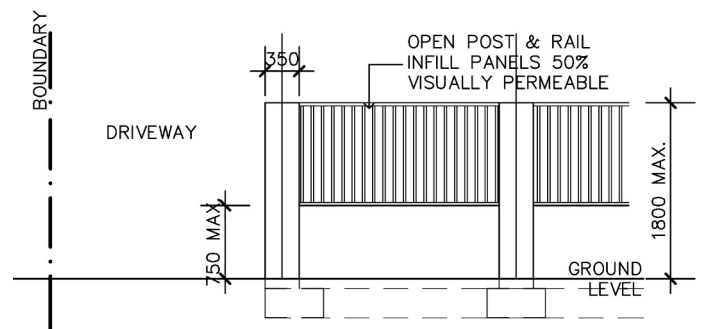

Figure 2: Typical front fence within truncation to provide vehicle sightlines
- Fence and walls within 1.5m of where the driveway meets the street boundary has a solid portion which is no higher than 750mm from natural ground level, excluding a pillar which can be a maximum height of 1.8 metres and a maximum dimension of 350mm x 350mm (see Figure 2 on the right).